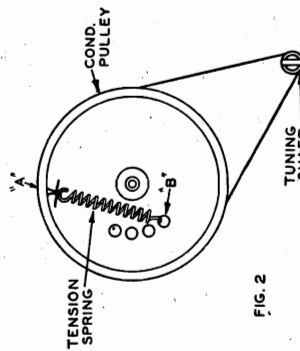

FIG. 2
3. Make two turns with cord around tuning shaft. (See Fig. 2.)
4. Continue both ends of cord around condenser pulley in opposite directions until they meet at the hole (A) in the rim of the pulley.
6. Tie in the dial cord tension spring and hook the free end of the spring in the hole (B). Cut off surplus cord.